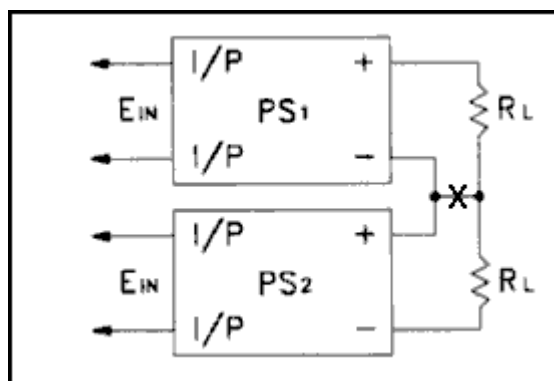

Fig. 15
a. Fig. 15 describes a sample setup for separate distinctive loads. Protective diodes (D1 and D2 below) may be necessary with this type of application to protect the units if connection X is lost.